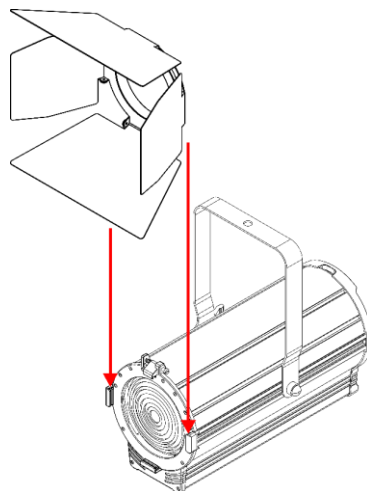

Fig. 12
- 02) Insert the **barndoor (18)** into the **color frame holders (04)** (see Fig. 12).